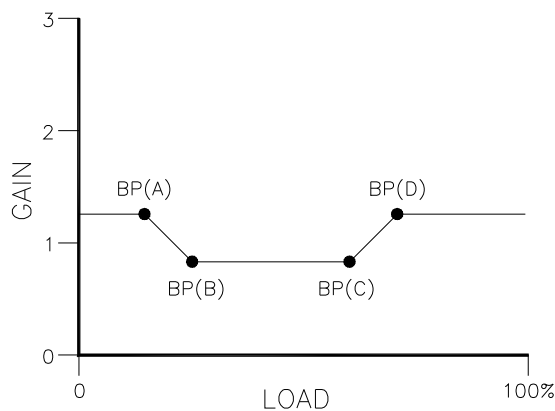

Figure 4-9. Example of Plot Created from GAIN Column
3. Use the plot of the engine to determine the linearity of the fuel system. This curve should be linearized between inflection points as shown in Figure 4-9.